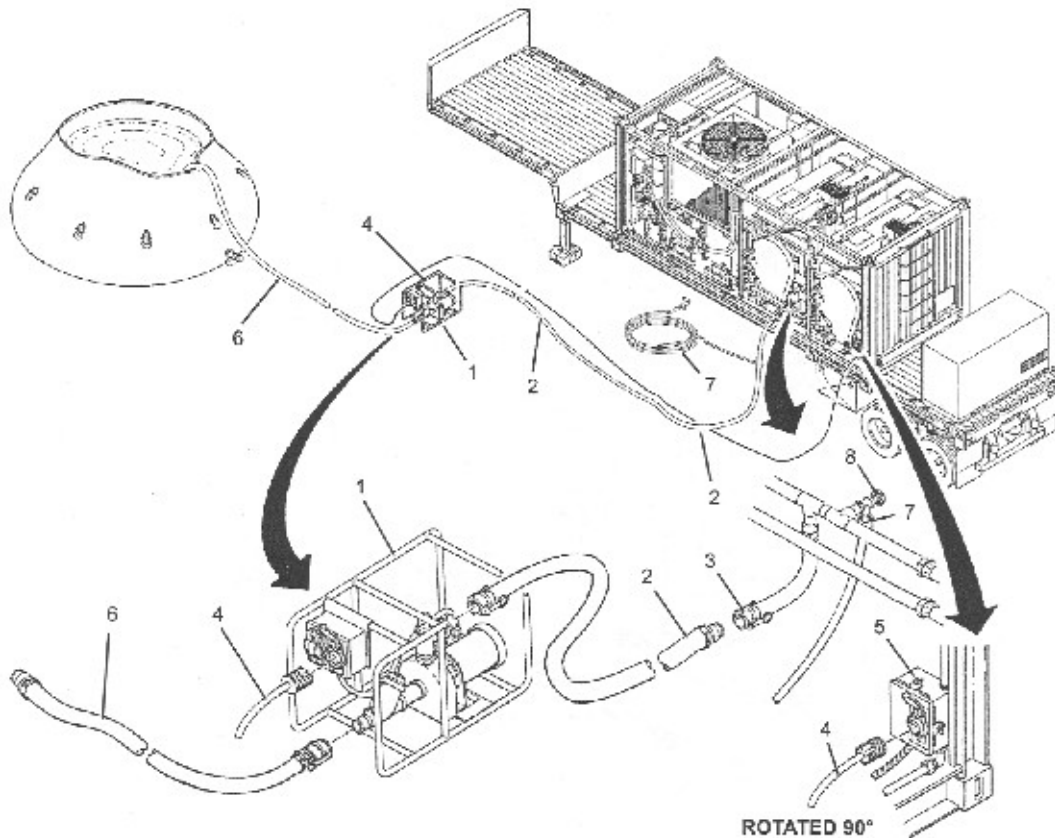

Figure 3-45
1. Place water supply pump (1) at desired location.
2. Connect a 50 ft water supply hose (2) at water supply port (3).
3. Connect electrical cable (4) at junction box (5).
4. Roll out and route hose (2) and cable (4) towards water supply pump (1).
5. If necessary connect second 50 ft water supply hose (2) to first 50 ft water supply hose and roll out towards water supply pump (1)
6. Connect hose (2) at water supply pump (1).
7. Connect electrical cable (4) at water supply pump (1).
8. Connect 10 ft water supply hose (6) at water supply pump (1).
9. Connect or insert hose (6) at water supply.
10. Connect utility hose (7) to faucet (8) then place hose on ground. (See Figure 3-45)